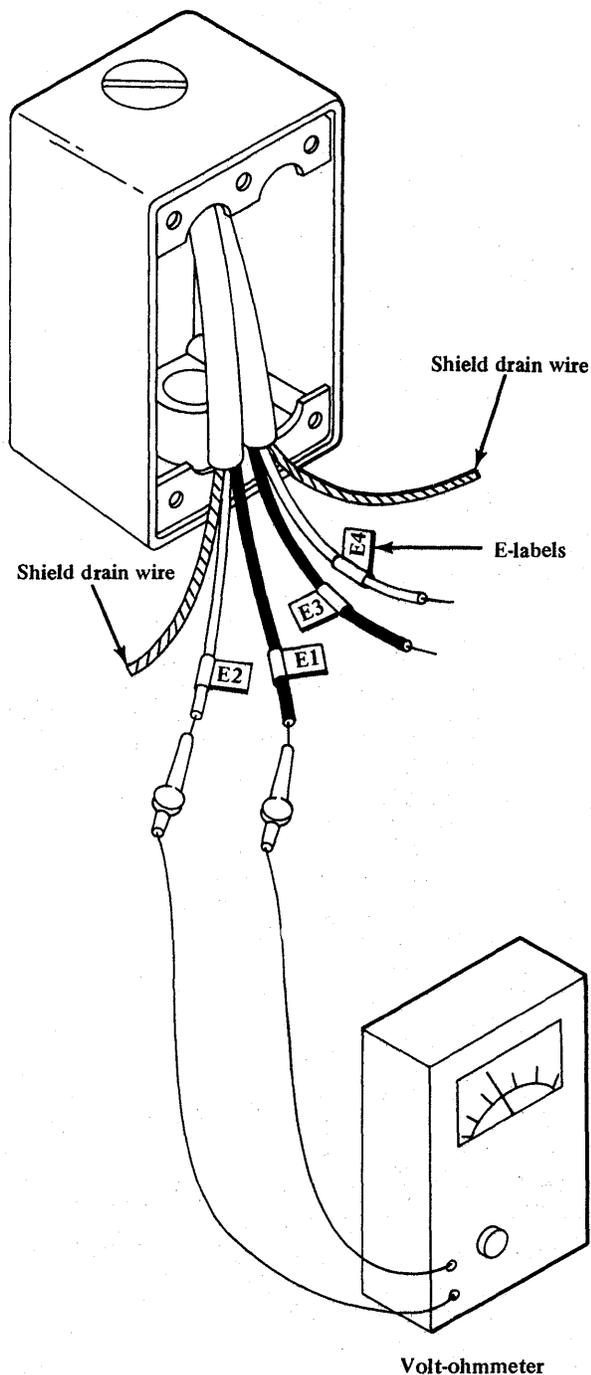

Figure 3-18. Cable preparation, station connector
- ( ) Label the blue wire E3, as shown in Figure 3-18.
- ( ) Label the white wire E4, as shown in Figure 3-18.
- ( ) Select one of the cables and connect one meter lead to each wire of a blue-white pair (see Figure 3-18). Label the blue-white pair that shows continuity; the blue wire is E1 and the white wire is E2.
- Repeat procedure for all stations in each loop; then label the return ends to the multiplexer as E1 and E2, as shown in Figure 3-18.